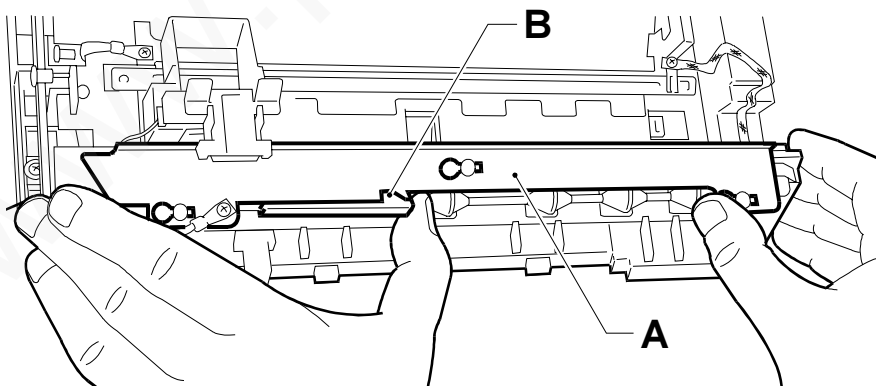

Fig. 7-37
- 2) Flex pawl **A** forward, move bar **B** rightward and extract it rotating it backward (Fig. 7-37):